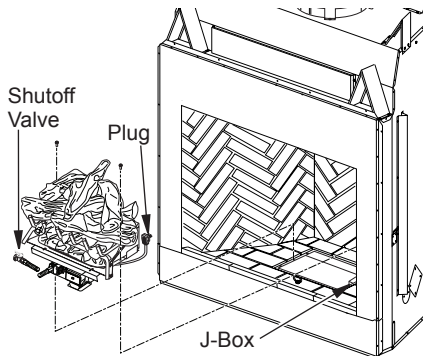

Figure 32 - Installing Module into Firebox
1. Plug module into J-Box on the right side of firebox floor (see Figure 32).